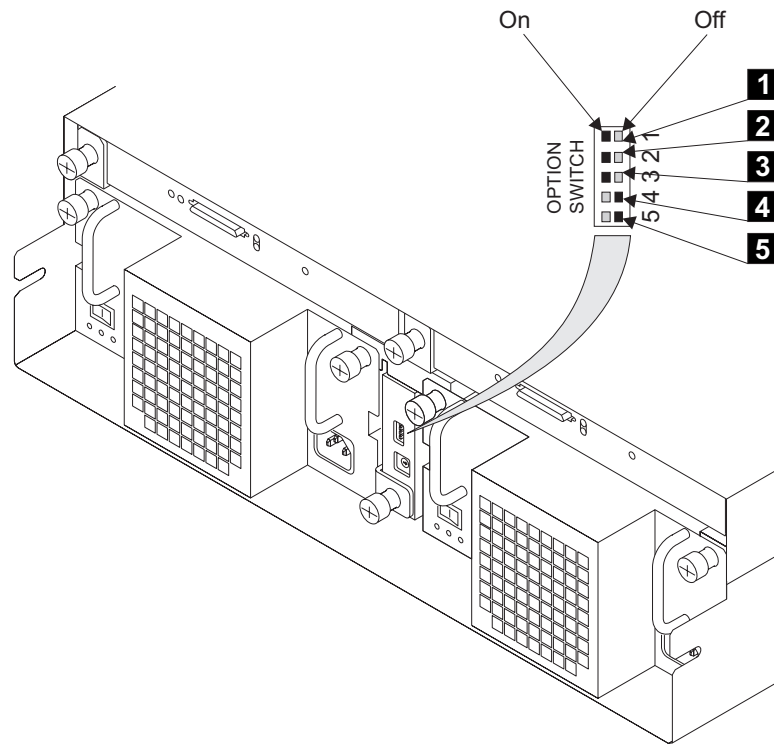

Figure 14. Option Switches
5. Now look at the option switches. Refer to Figure 14.
9. Switch on the DC On/Standby switch **1** on each power supply. If option switch 1 (see Figure 14 on page 19) is on, the green DC PWR light **3** comes on. If option switch 1 (see Figure 14 on page 19) is off, the green DC PWR light **3** stays off. It will come on when the 2104 is connected to the using system.